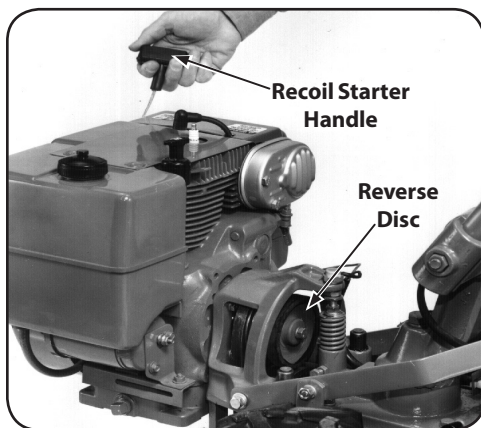

Figure 5-20
2. Place Wheels/Tines/PTO Drive Lever in NEUTRAL. Briefly pull out the engine recoil starter handle while watching the reverse disc. The disc should turn, but lower pulley should not. See Figure 5-20. If the reverse disc turns the lower pulley, or if it is located closer than  $\frac{3}{16}$ " to the pulley, reverse adjustment bolt should be adjusted upward. Moving the adjustment bolt upward will also solve the problem of a tiller that goes into REVERSE on its own.